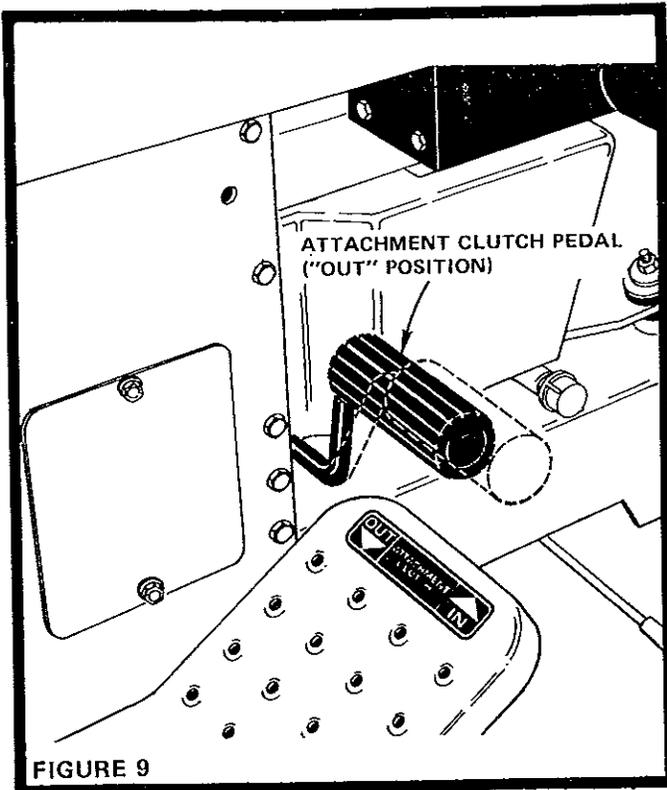

FIGURE 9
1. Place Attachment Clutch Pedal in "OUT" position (Fig. 9).